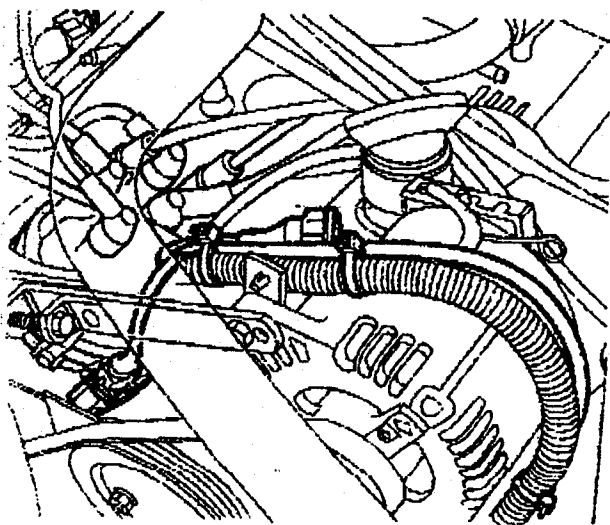

FIG 2
7) Cable-clip/tie wrap original engine harness connector back onto the harness. (See fig 2)
12) Cable tie the service pick-up lead to the engine harness. (See fig 2).